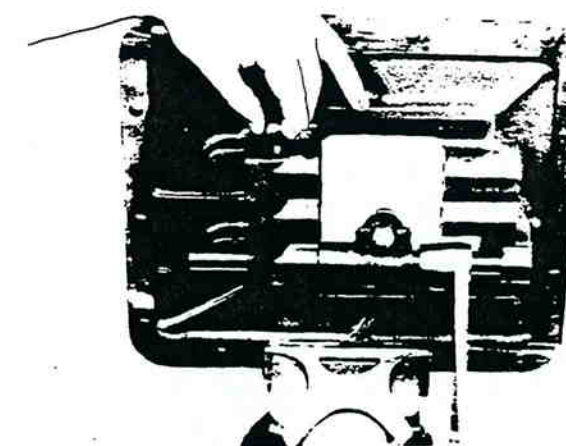

Figure 13-170. Installing Interlock Ball.
4. Install 3/4" interlock ball in bore in front boss (figure 13-170).